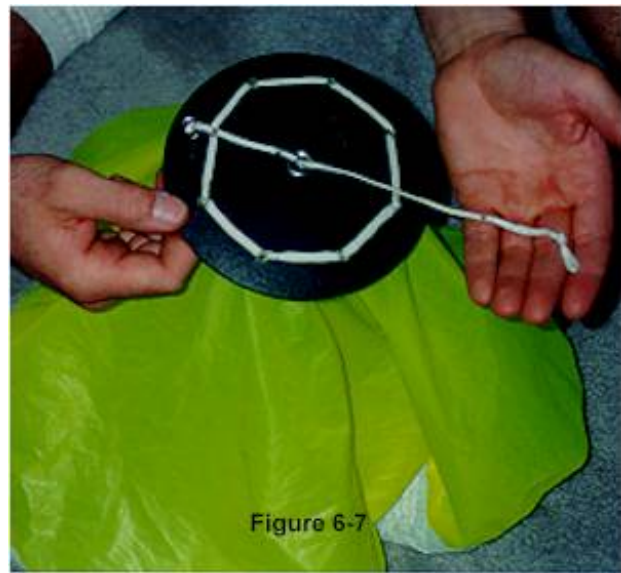

Figure 6-7
Step 5 Insert closing loop down through center grommet in cap as shown in *Figure 6-7*.